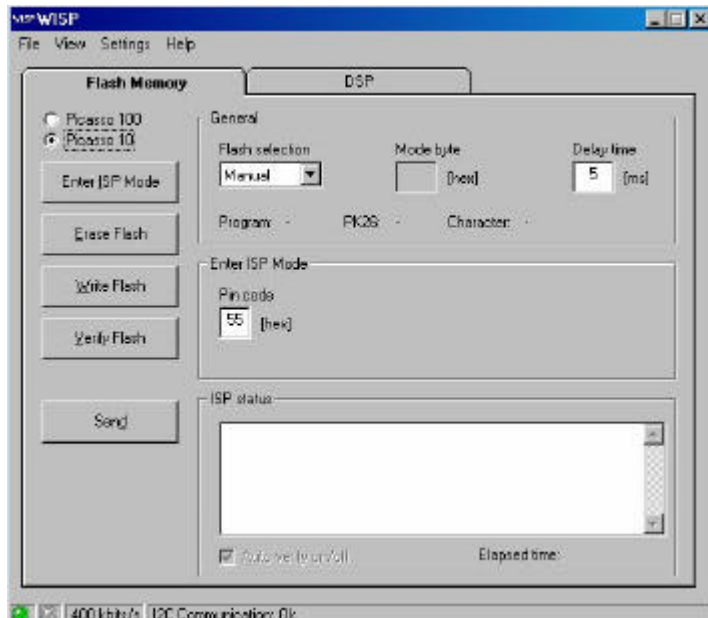

Figure1: WISP Main Menu
- 2- Run WISP program. As it is seen in figure1 change "Delay time" value to "5" ms.